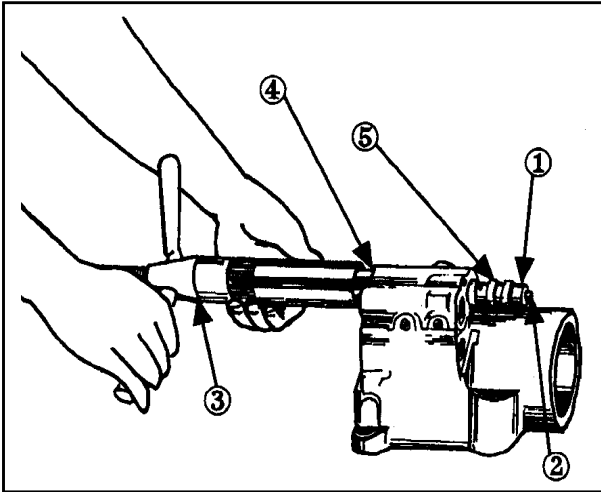

Figure 33
2. Insert the Guide of Adaptor Tool No. OF-1401 (spigot end first) into the front of the respective bushing locating bore in the lift cylinder housing. Screw the short threaded end of Extension Tool No. OF-1400 and pass the Extension through the Stop Adaptor from the front end of the lift cylinder. Locate the valve bushing over the Extension and screw the adaptor Tool No. OF-1401 onto the rear end of the Extension until the taper on the adaptor locates squarely in the rear end of the bushing. Figure 33, 34 and 35.